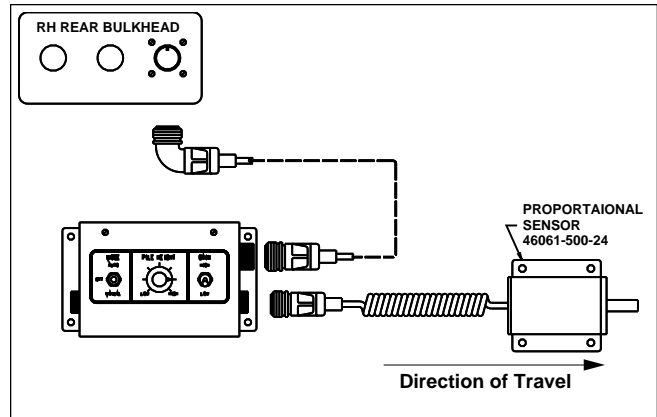

Figure 4
- 1) Plug one end of the power cable into the RH rear bulkhead of the tractor and the other end into the RH feeder control mounted on the screed (Figure 4). This cable can be left connected all the time.
- 3) Remove the protective cap from the RH side of the feeder control and plug in the coiled sensor cable (Figure 4)